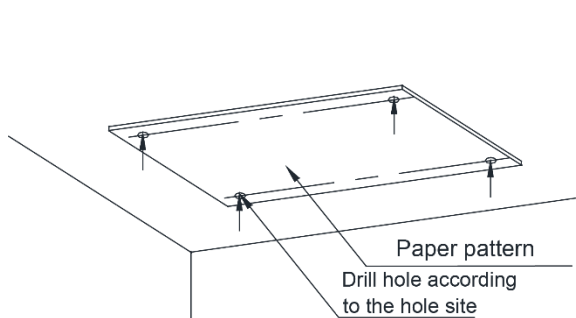
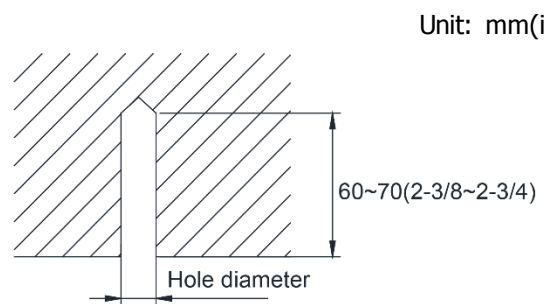

Fig.4.9
Fig.4.10
- 1) Stick the installation template at the installation position flatly, drill 4 holes at the installation position basing on the installation template. As shown in fig. 4.9. Please refer to the diameter of expansion bolt for the diameter of hole with depth of 60-70mm (2-3/8~2-3/4in.). As shown in fig.4.10.